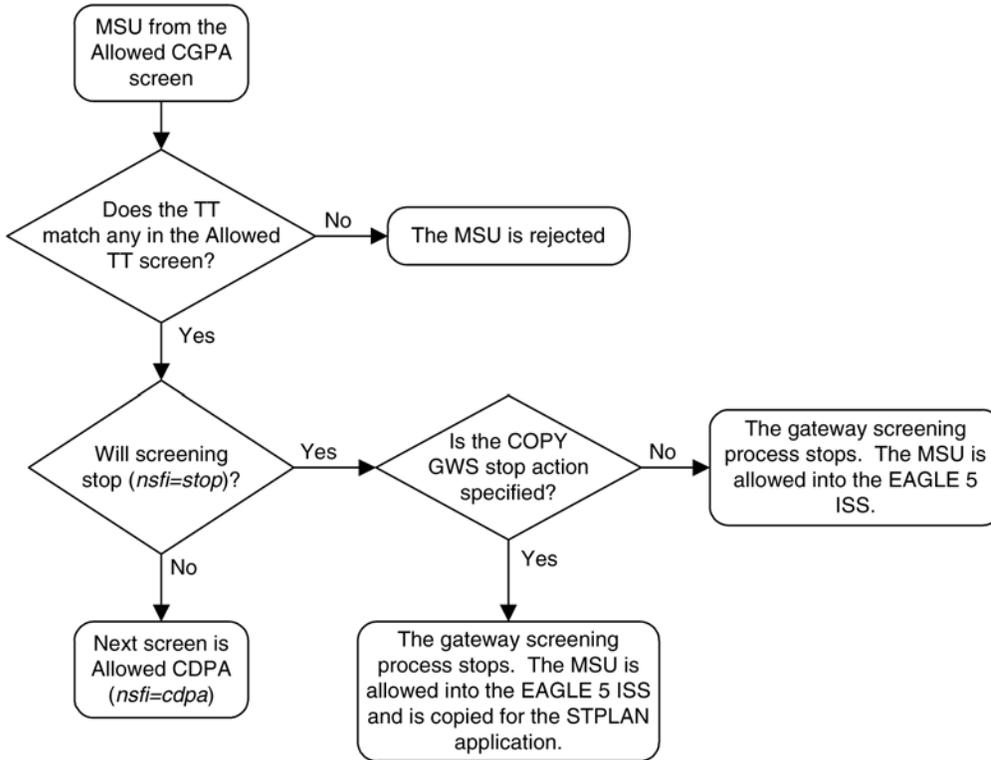

Figure 5-1. Allowed Translation Type Screening Function
The allowed translation type (TT) screen is used to screen all SCCP messages which have the specified translation type value in the called party address. The gray shaded areas in Figure 5-1 shows the fields of the SS7 message that are checked by the TT screening function. If a match is found, the **nsfi** is examined to determine the next step in the screening process. If the **nsfi** is equal to **stop**, the message is processed and no further screening takes place.